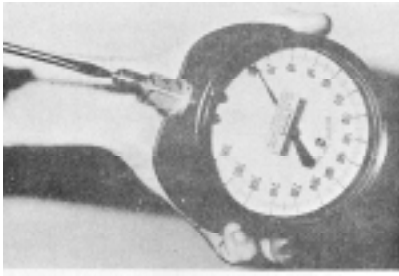

Fig. 6-1-78, F60181. Removing snubber from gauge stem
1. Remove gauge from test stand. Remove snubber from gauge stem. Fig. 6-1-78.